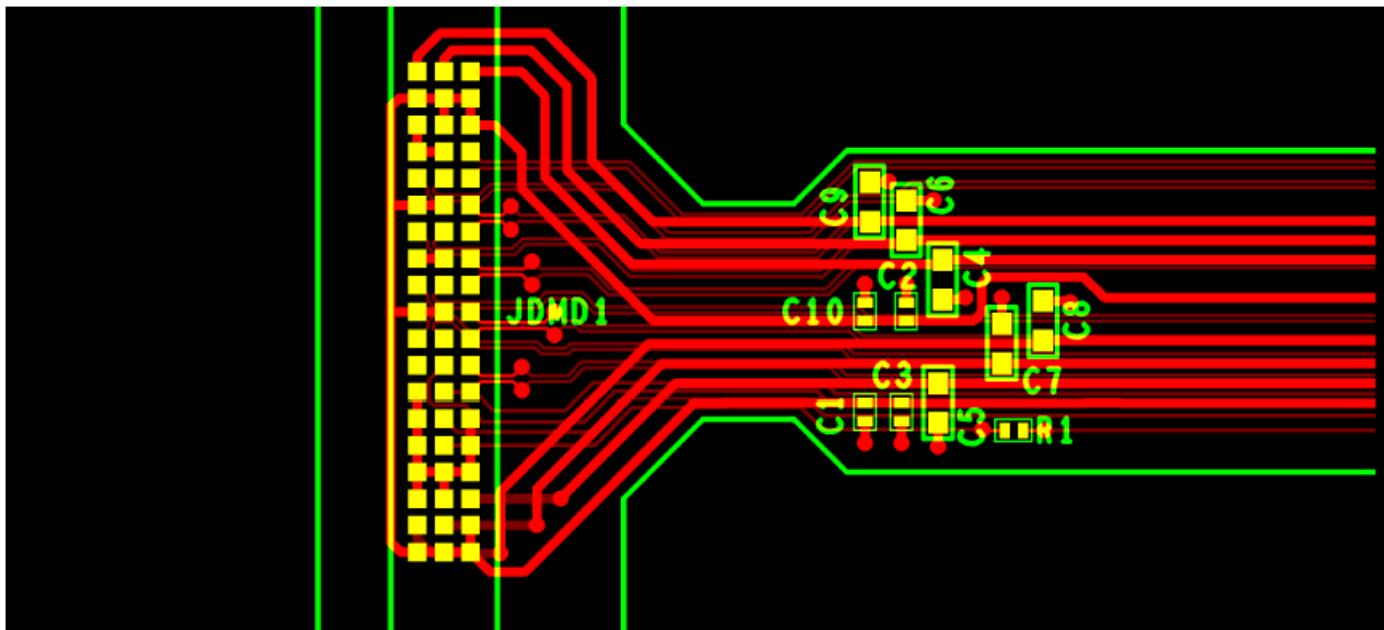

Figure 10-1. Power Supply Connections
- Minimize vias, layer changes, and turns for the HS bus signals. Refer Figure 10-1.
- Minimum of two 100-nF decoupling capacitor close to VBIAS. Capacitor C6 and C7 in Figure 10-1.
- Minimum of two 100-nF decoupling capacitor close to VRST. Capacitor C9 and C8 in Figure 10-1.
- Minimum of two 220-nF decoupling capacitor close to VOFs. Capacitor C5 and C4 in Figure 10-1.
- Minimum of four 100-nF decoupling capacitor close to VDDI and VDD. Capacitor C1, C2, C3 and C10 in Figure 10-1.